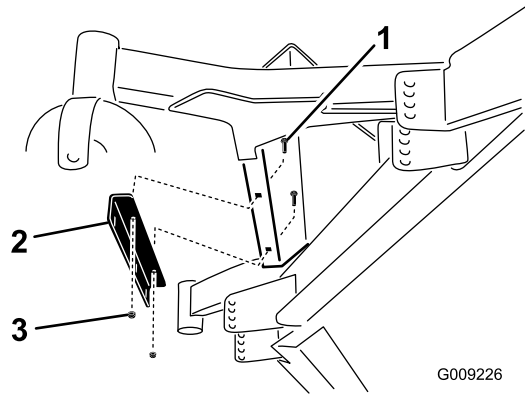

Figure 34
4. Install the weight-mount bracket under the footrest with 2 carriage bolts (5/16 x 3/4 inch) and 2 flange nuts (5/16 inch) as shown in Figure 34.